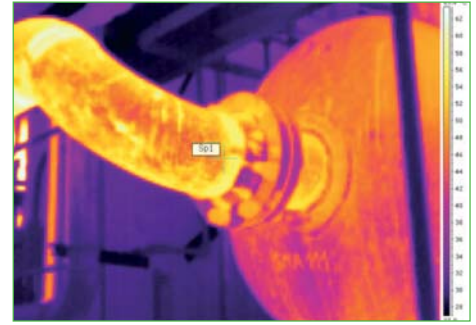

Figure 2: Thermal infrared images
- Thermal infrared imagers (see *Figure 2*) which, unlike other infrared techniques, can scan the infrared emissions from wide areas of a machine or process equipment in a very short time. The imaging systems function much like a video camera. The user can view the thermal emission profile of a broad area by simply looking through the instrument optics